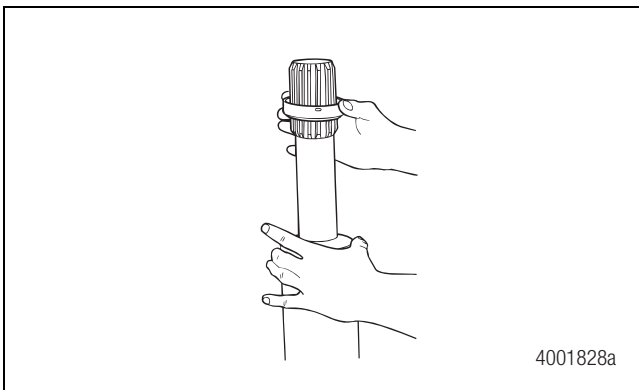

Figure 4.1
1. Install the new shroud. Figure 4.1.